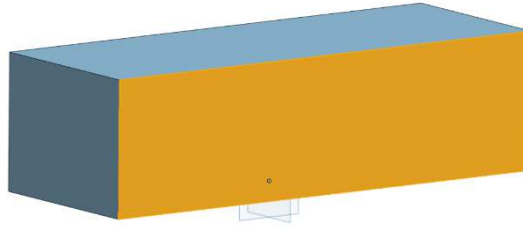

Figure 2.13: Sketching on the surface of the extrude.
- 10) Click on the “Front” plane surface of the extruded object (figure 2.13) and create a sketch, then adjust your view to show the sketch plane as shown in steps 4.